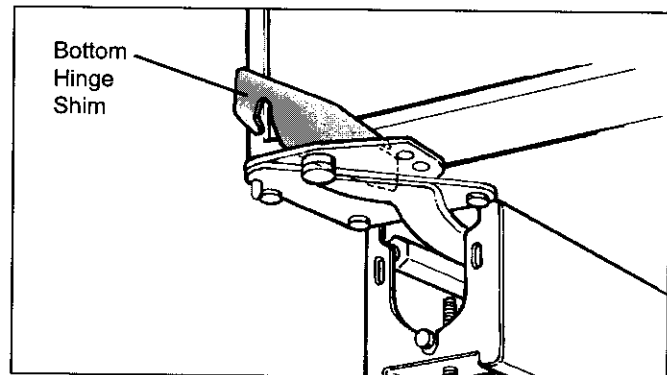

Figure 2-6. Bottom Hinge Shim Installation
**NOTE:** If one door on a side-by-side unit sits higher than the other, bottom hinge shim (part #0183100) is available. To install shim, remove shipping screws from bottom door hinge, then loosen hinge mounting screws. Insert shim(s) between bottom door hinge and bottom door trim. Adjust door accordingly and retighten door hinge screws (See Figure 2-6).